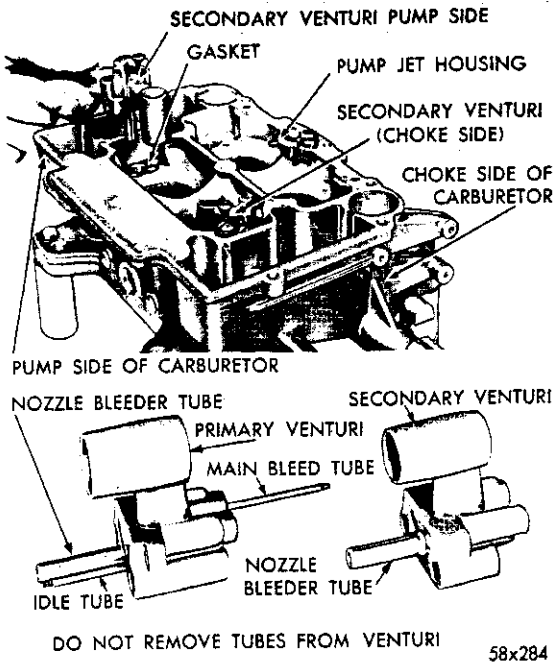

Fig. 6—Removing the Secondary Venturi
(5) Remove the screws that attach the secondary venturi (choke and pump side) to the main body. Lift the secondary venturi assemblies straight up and away from the body, as shown in Figure 6.
(6) Using Tool T-109-59, screw driver bit, remove the accelerator pump intake check ball assembly. (The check ball assembly is located at the front of the bowl at the base of the accelerator pump